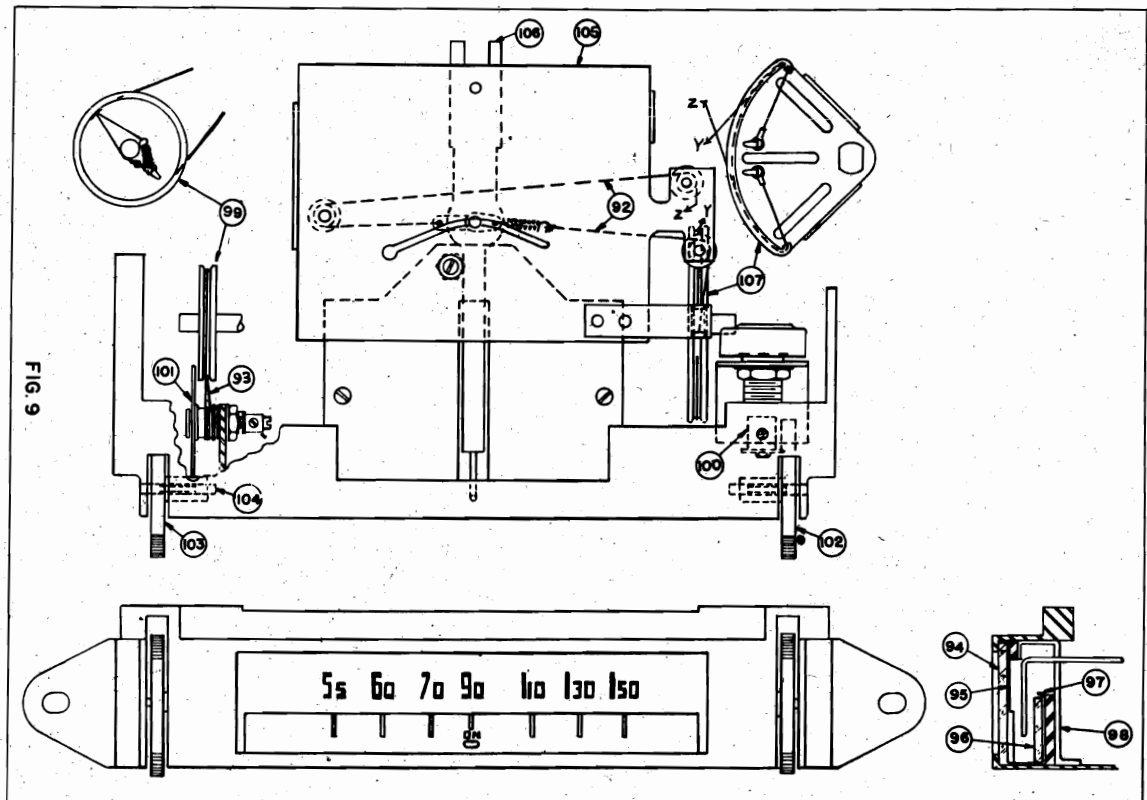

Fig. 9 General Arrangement - Dial & Drive Assembly
9. Place the long cord behind the pointer and over pulleys. (Illustration 92 in Fig. 9 Page 130) Hook the cord eyelet over the drive pulley hook nearest the front of the tuner and push the cord into position around the pulley rim.